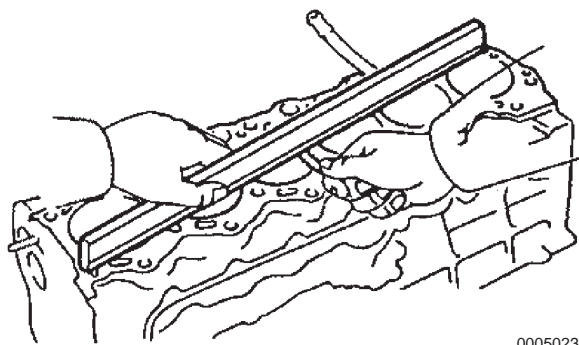

Figure 5-100
3. Measure the top deck surface of the cylinder block using a precision straight edge and feeler gauge (**Figure 5-100**).